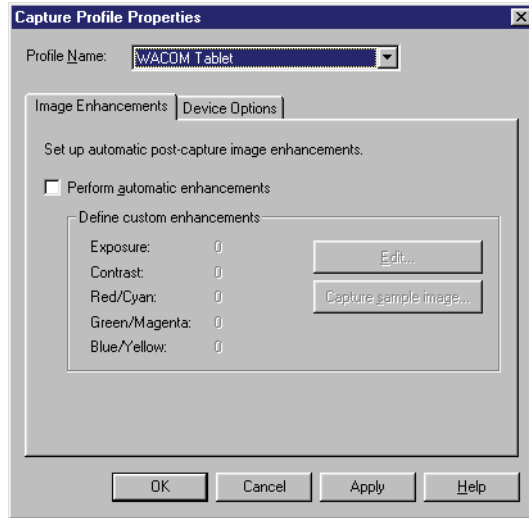

Figure 9-28: Capture Profile Properties
3. To set the digital tablet's operating parameters, click on the **Properties...** button. The Capture Profile Properties window appears, displaying the Image Enhancements tab (see Figure 9-28 on page 25 of this section).